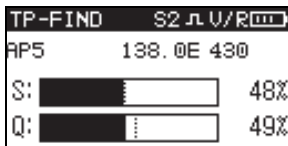

Figure 1
The maximum value has been recorded. Align the dish to reach maximum value. refer to Figure 1.
1. Press  to main menu as figure 1, then press  to select the spectrum icon.